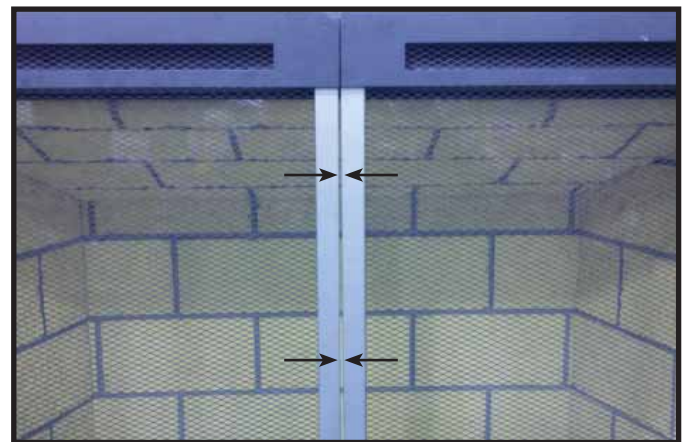

Figure 7. Uniform Spacing Between Doors
7. Verify that doors are aligned properly and that there is uniform spacing between the doors from top to bottom as shown in Figure 7. If spacing is not uniform, reference "Door Hinge Adjustment" section on page 3.